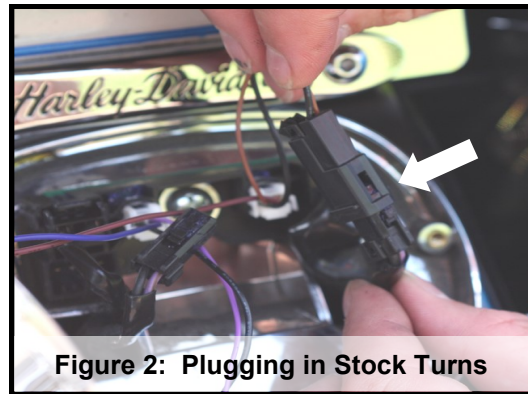

Figure 2: Plugging in Stock Turns
8. If you are continuing to use the stock turn signals, plug the them into the 2 pin connectors on the tail light. Brown is right, purple is left. Make sure they lock in place. (See figure 2)